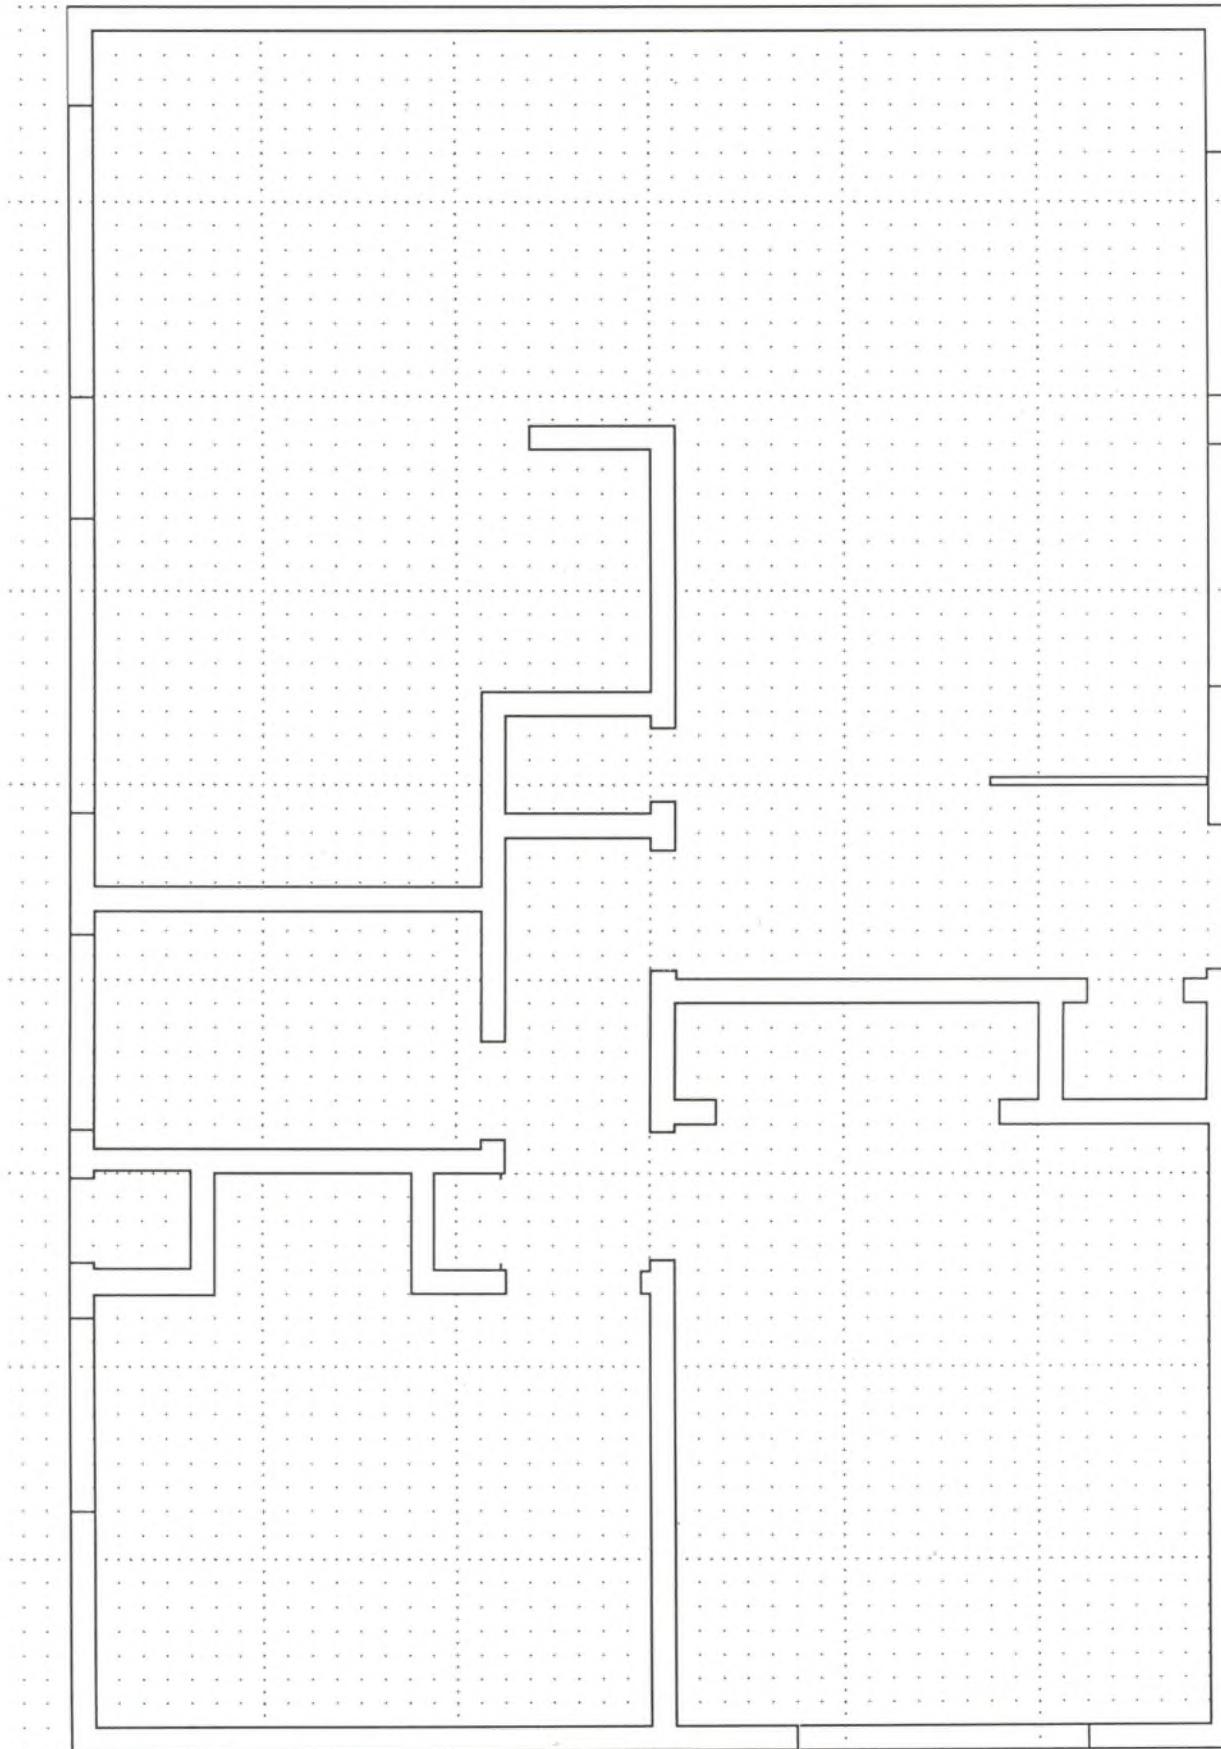

Fig. 20.1 First stage of floor-plan development. This plan shows all walls, windows, and door openings.
1. If a house is square or rectangular, such as the plan in Fig. 20.1; which measures 24' x 36', simply multiply 24 x 36, which equals 864. Consequently there are 864 square feet of floor space in the plan.
8. Compare your drawing with Fig. 20.1.